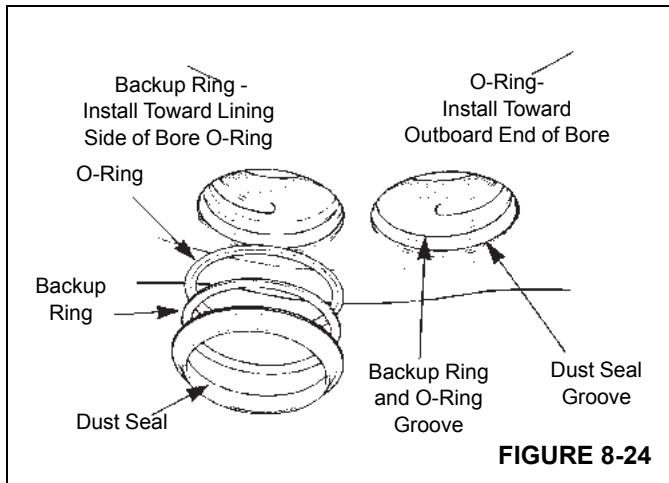

FIGURE 8-24
2. Install new O-ring and a new back-up ring in the groove in the middle of the bore. The O-ring is installed toward the outboard end of the bore. The back-up ring is installed toward the lining side of the bore. Refer to (Figure 8-24).
3. Install a new dust seal in the top groove of the bore. Refer to (Figure 8-24).